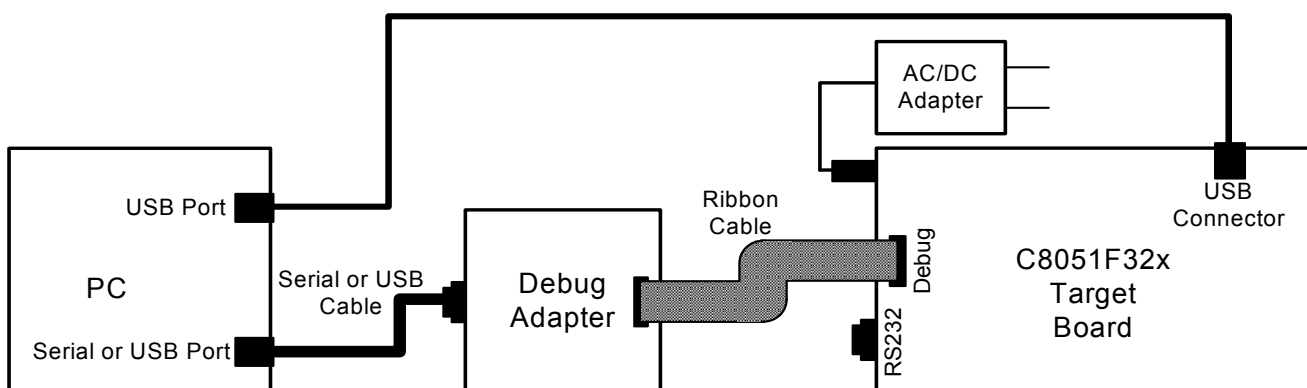
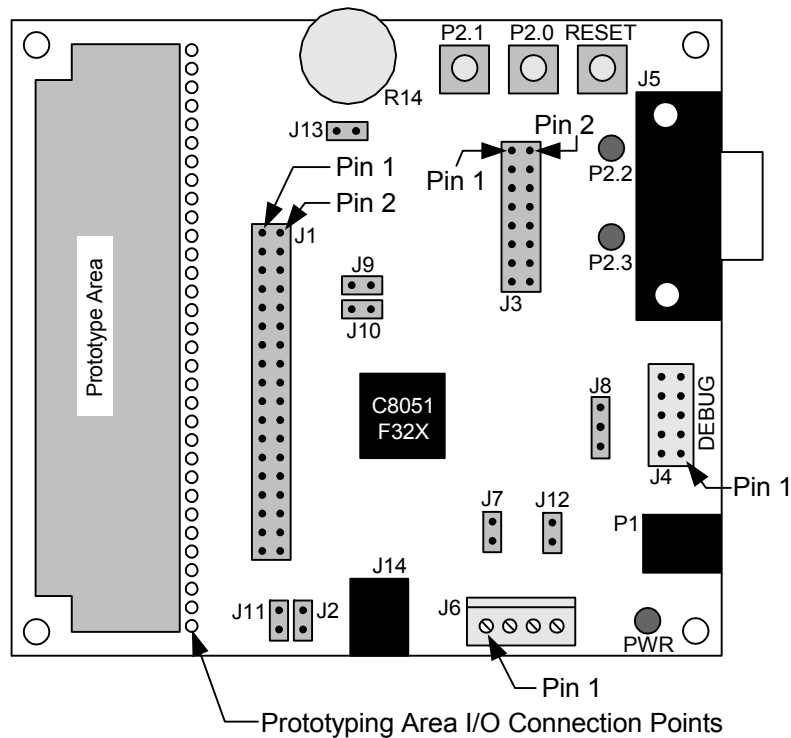

Figure 3. USB Application Hardware Setup
Figure 4. C8051F320 Target Board
1. Connect the USB cable between the host computer and the C8051F320 target board, as shown in Figure 3. See Figure 4 on page 8 for the location of the USB connector.
5. See Figure 4 on page 8 for the location of headers, LEDs, switches, and potentiometer.
The C8051F32x Development Kit includes a target board with a C8051F320 device pre-installed for evaluation and preliminary software development. Numerous input/output (I/O) connections are provided to facilitate prototyping using the target board. Refer to Figure 4 for the locations of the various I/O connectors.
The 32-pin Expansion I/O connector J1 provides access to all signal pins of the C8051F320 device. Pins for +3 V, digital ground and the output of an on-board low-pass filter are also available. A small through-hole prototyping area is also provided. All I/O signals routed to connector J1 are also routed to through-hole connection points between J1 and the prototyping area (see Figure 4 on page 8). Each connection point is labeled indicating the signal available at the connection point. See Table 3 for a list of pin descriptions for J1.